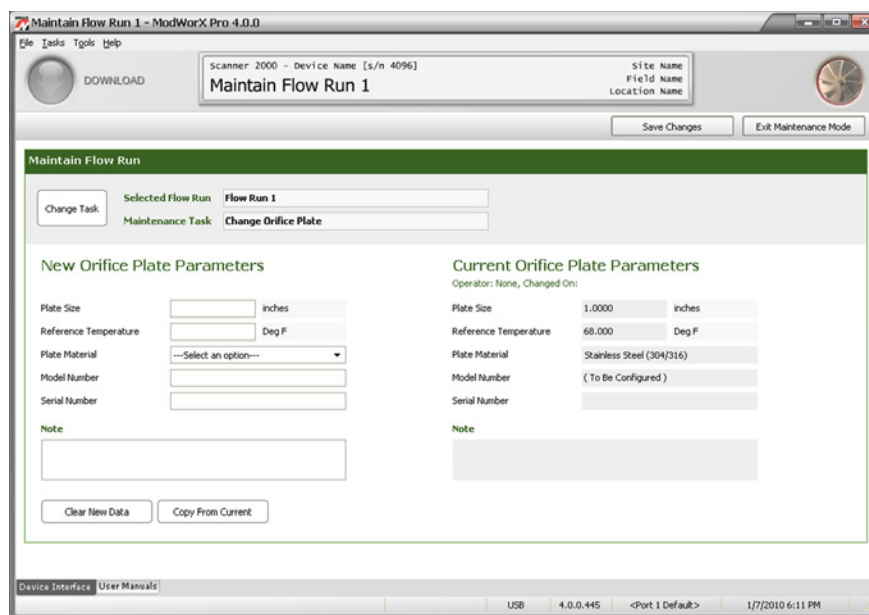

Figure 9.5
- Click **OK** to save your selections and return to the Maintain Flow Run screen (Figure 9.5, page 131).